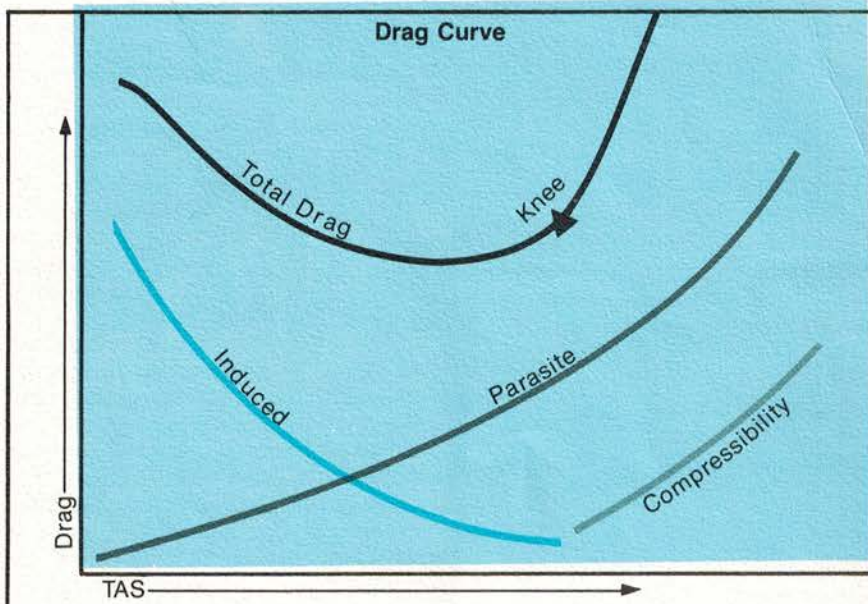

Figure 5
- **Compressibility drag** is the consequence of shock-wave buildup on the airframe as the aircraft approaches the speed of sound. Every airplane has a critical Mach number, which is that speed at which airflow over some point on the wing first reaches sonic speed. Above the critical Mach number, shock waves grow and drag increases greatly. If the plane goes fast enough, compressibility will cause a departure from the basic drag curve (Figure 5).